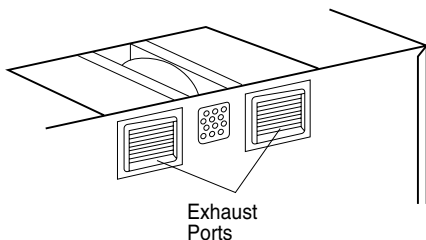

Figure 18
6. Place blower unit back into cabinet. Check that the exhaust ports face towards the rear of the cabinet. Be sure the wires are not pinched. See Figure 18.